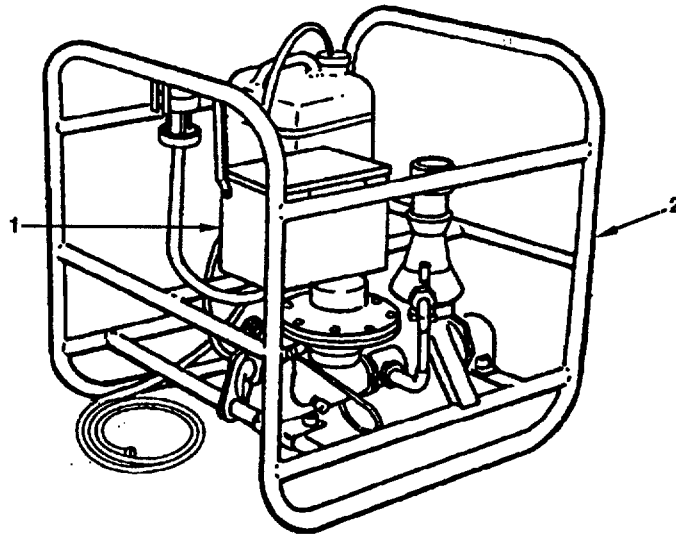

Figure 2-26. Hypochlorination Unit.
az. Store color comparator kit in metal box (Figure 2-26, 1) mounted on skid of hypochlorination unit (2).